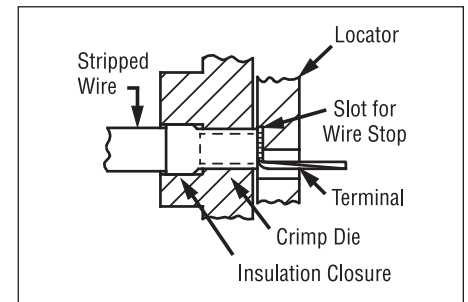
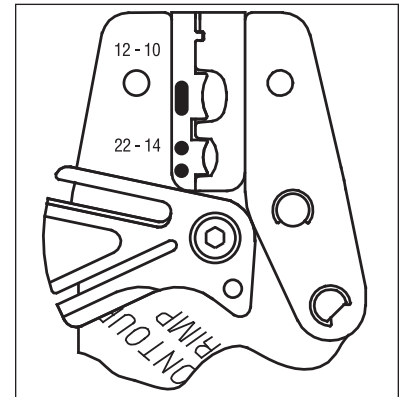
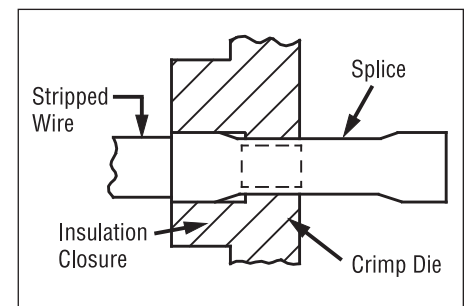

Figure 4
Figure 5
Figure 6
1. With the handles in the **open** position, swing the locator out of the way (See Figure 4). The locator will detent and "lock" in this position. For splices, insert the splice in the proper crimp pocket (See Figure 1) so that the crimp is located on the barrel of the splice (See Figure 5). For fully insulated disconnects, insert the disconnect in the proper crimp pocket (See Figure 1) so that the crimp is located on the barrel of the disconnect (See Figure 6). Refer to product packaging for selection of proper crimp pocket.
2. With the handles in the **open** position, swing the locator out of the way (See Figure 4). The locator will detent and "lock" in this position. Insert the wire joint from the back (locator) side of the crimp tool in the proper crimp pocket (See Figure 1) so that the ribs of the molded insulator (where applicable) are positioned against the crimp die (See Figure 9). Refer to product packaging for selection of proper crimp pocket.
2. Swing the locator out of the way (See Figure 4), and inspect the crimping dies for worn, chipped or broken edges.